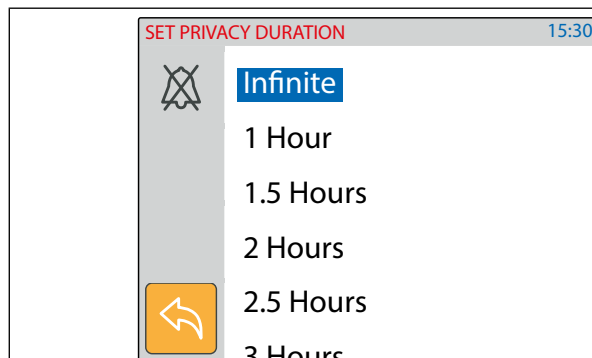

Fig. 7 Set privacy duration
- The current value is shown (**Fig. 7**).